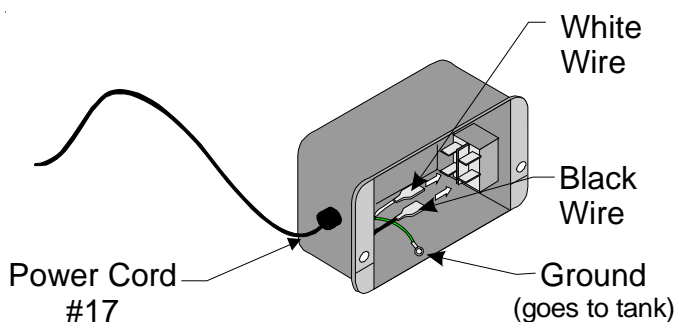

Figure 2 — Wiring Switch Box
- Step 1: Make sure the black and white wires from the POWER CORD (#17) are hooked up to the bottom terminals as shown in Figure 2.
- Step 2: Connect the black and white wires from the PUMP (#6) to the top terminals in the same fashion as the ones from the POWER CORD as shown in Figure 2.